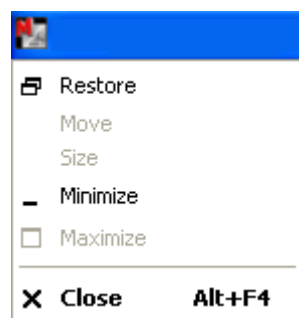

Fig. 1.1.93
- Click the upper left icon  to exit the system, see Fig.1.1.93.